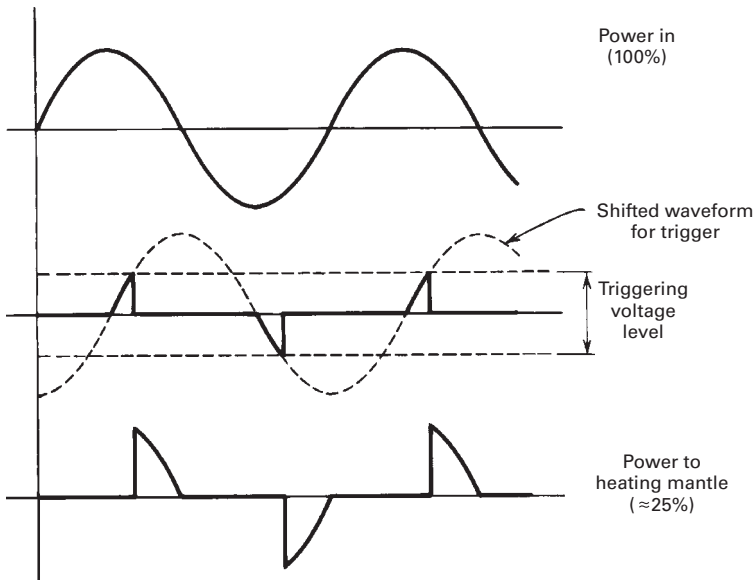

FIGURE 17.8 Light dimmer and heating mantle triac power control.
3. **The electronic stepless controller.** Would you believe a *light dimmer*? The electronic controller has a *triac*, a semiconductor device that lets fractions of the AC power cycle through to the heating mantle. The AC power varies like a sine wave, from 0 to 120 V from one peak to the next. At a setting of 25%, the triac remains off during much of the AC cycle, finally turning on when the time is right (Fig. 17.8). Although the triac does turn “full off and full on,” it does so at times in so carefully controlled a way that the mantle never sees full line power (unless you deliberately set it there).